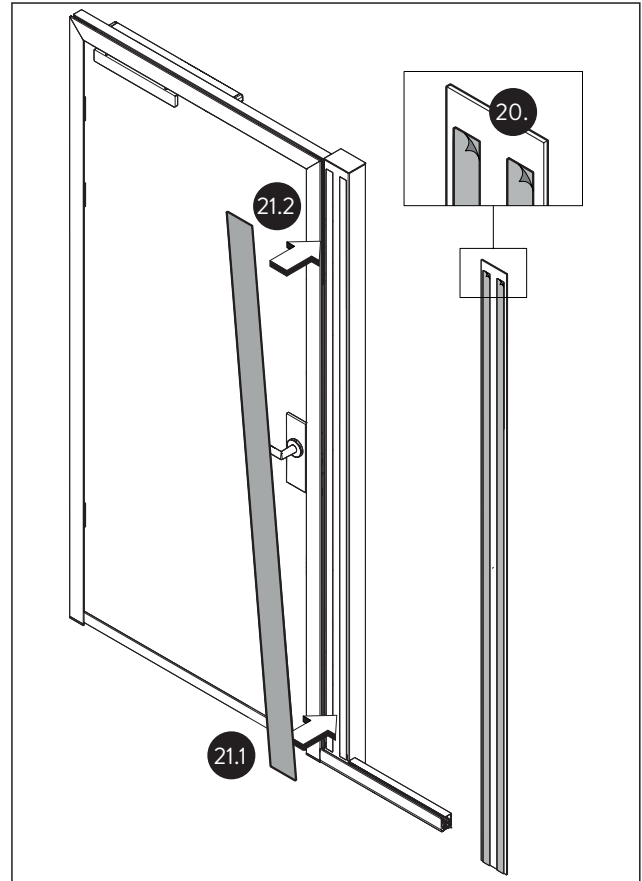

Fig. 14 Peeling off the foil strips and mounting the cover profile
21. Place the cover profile on the outside at the bottom of the glass and glue it from bottom to top so that the back of the base profile is no longer visible (see Fig. 14).